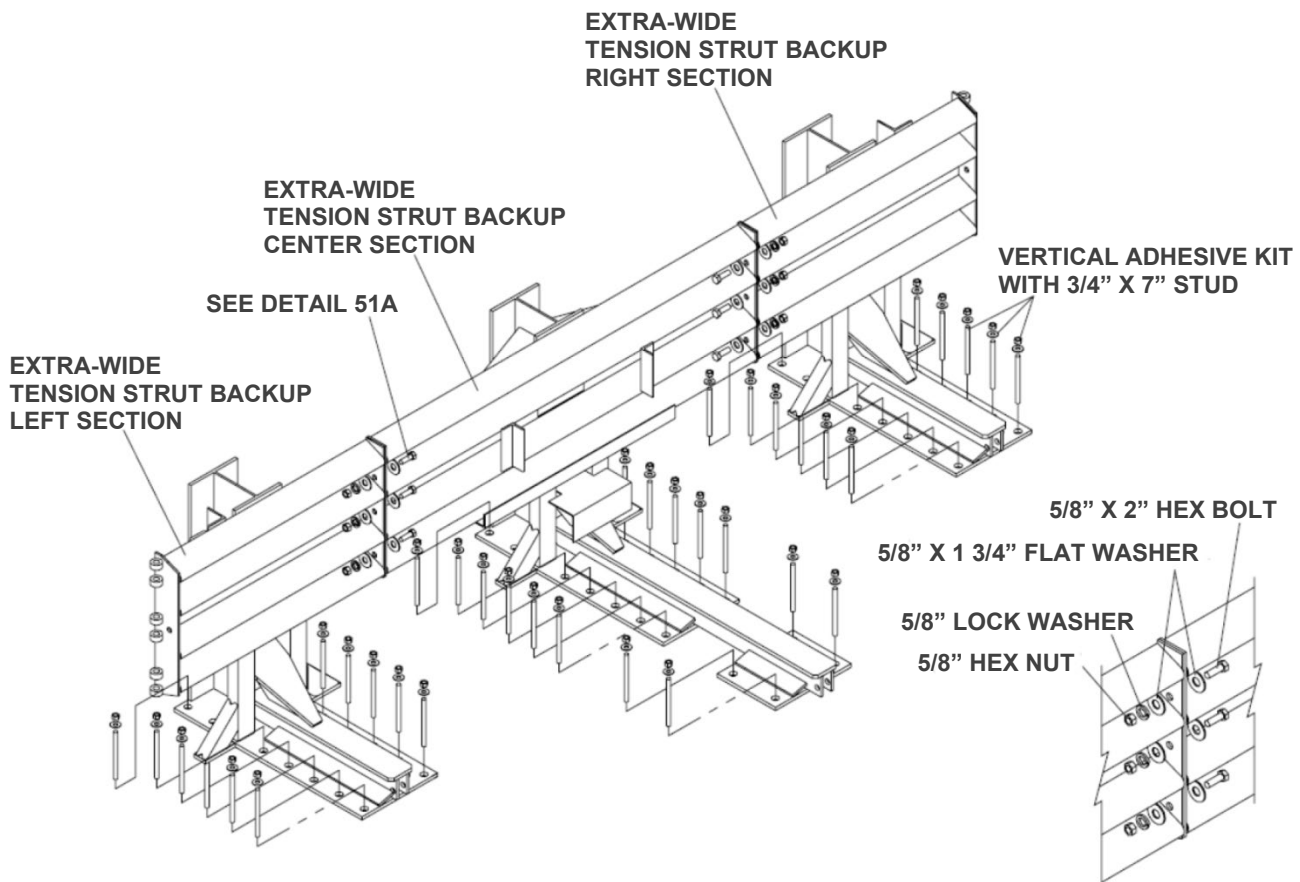

Figure 51
C) Extra-Wide Tension Strut Backup Assembly (Figure 51)
Secure the Backup sections to each other using 5/8" x 2" hex bolt, 5/8" x 1 3/4" flat washer (2), 5/8" lock washer and 5/8" hex nut (6 places) as shown in Figure 51 and Detail 51A.
Anchor each Monorail section using the approved adhesive kits provided. See Figure 51 and the approved adhesive kit instructions included with this manual (p. 12). It is important to attach each segment of Monorail in alignment from the back to the front of the system ($\pm 1/4"$ [6 mm]).